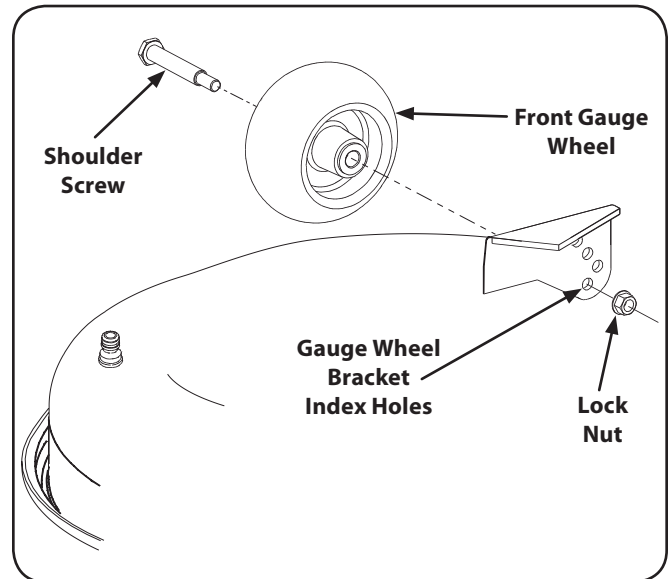

Figure 3-7
- a. Remove the lock nut securing one of the front gauge wheel shoulder screws to the deck. Remove the gauge wheel and shoulder screw. See Figure 3-7.